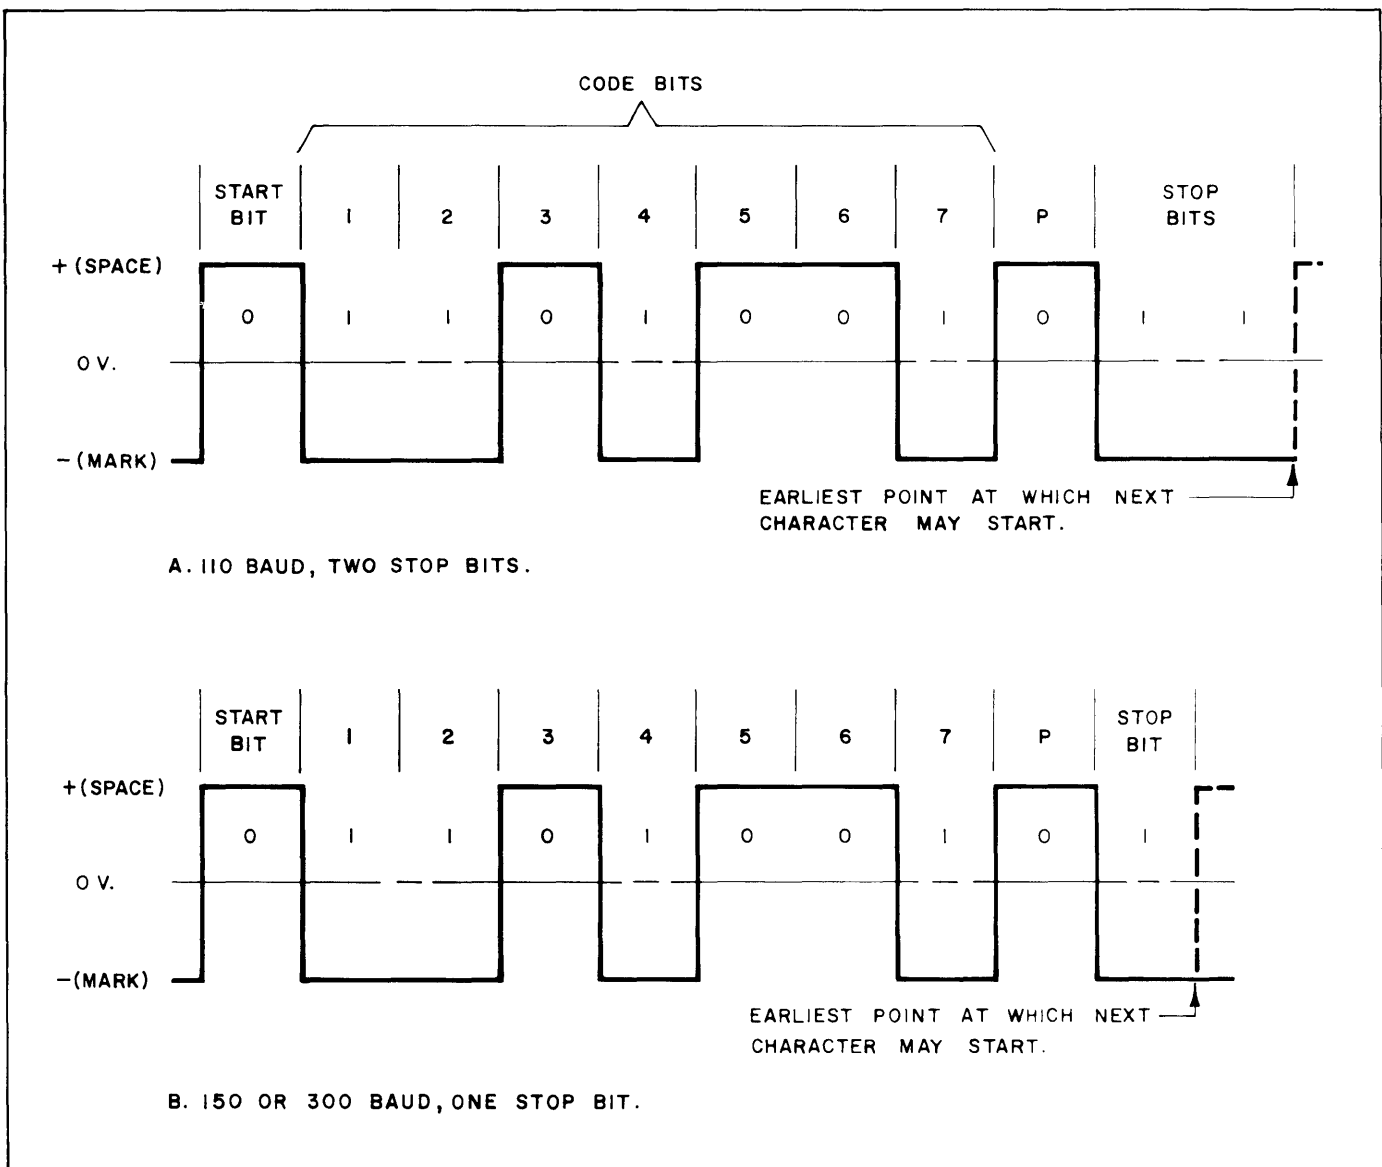

Figure 4-4. Data Format on Interface
Figure 4-4 is an idealized representation of an ASCII character (K) on the Transmitted Data or Received Data lines. Voltage levels are nominally ± 12 volts. Timing varies depending upon the baud rate selected. The idle condition of the line is mark. The beginning of a character is noted by the initial transition from mark to space (the start bit). The seven data bits follow, least significant bit first. Then comes the parity bit, followed by the stop bit(s).